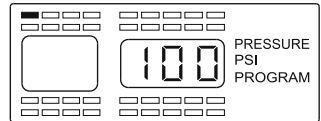
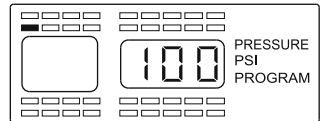

Figure 2-7
Figure 2-8
10. Once you have completed the sensor programming sequence for all tires, press the **PROG** button momentarily to move to the next step, this will be the Base Line Pressure Programming. The monitor will display as shown in Figure 2-7. If you are completely done with all of the programming operations you can press the **PROG** button for 5 seconds and the monitor will return to the normal mode of operation. This can be done at the end of any section of the program mode when the programming is completed.
NOTE: To enter directly into this program mode you will need to press the **PROG** button for 5 seconds until the “PROGRAM” is displayed. Then press the **PROG** button again briefly to enter this mode (see Figure 2-7 for screen display).
The monitor should now be displaying the wheel positions available to program, the words PRESSURE, the unit of measure (PSI, Bar, or kPa) and PROGRAM will be displayed as well as the baseline pressure for the selected wheel position (see Figure 2-7). The positions that already have sensors programmed to the monitor will be highlighted at this time (see Figure 2-8). You can program the air pressure from 5 PSI to